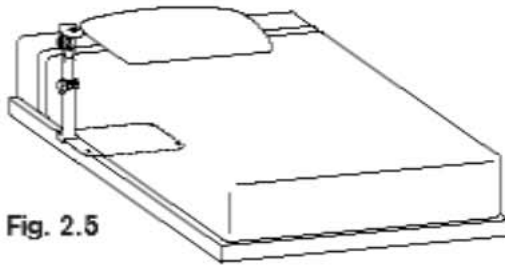

Fig. 2.5
- Position the base plate of the mounting accessory between the mattress and frame or box-spring. The mounting post should be positioned towards the head of the bed. (See Fig. 2.5)